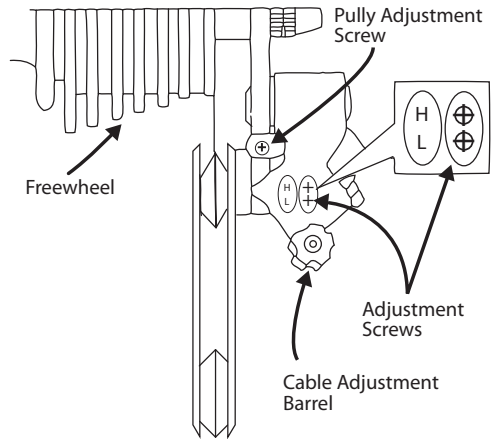

Fig. 31: Rear derailleur parts. View from the rear.
6. Cable tension is adjusted by turning the Cable Adjusting Barrel, which is located at the junction of the cable and the shifter or rear derailleur (Fig. 31). To increase tension turn the knurled knob counterclockwise, to decrease tension, turn the knob clockwise. Turn until the problem is corrected.